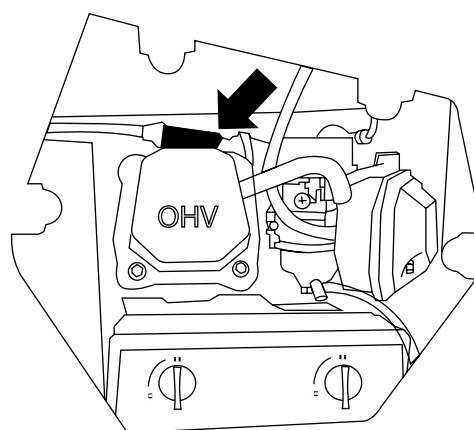

Figure 16: Pull off spark plug cover
4. Remove the spark plug cover by firmly pulling the metal spark plug boot directly away from the engine (see Figure 16).
- Remove the spark plug wire from spark plug (see Figure 16 in *Spark Plug Maintenance* section).